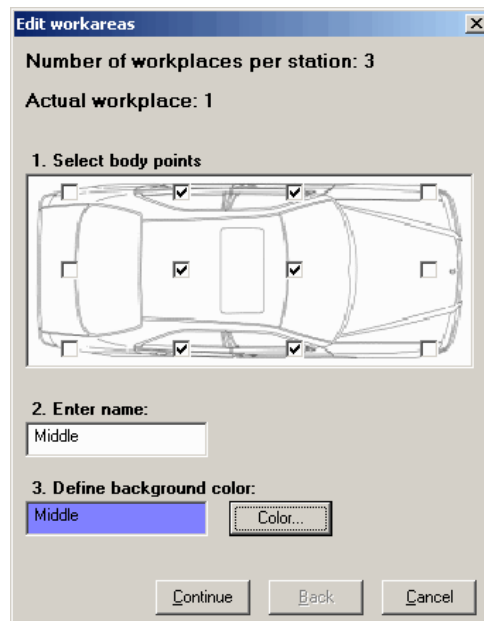
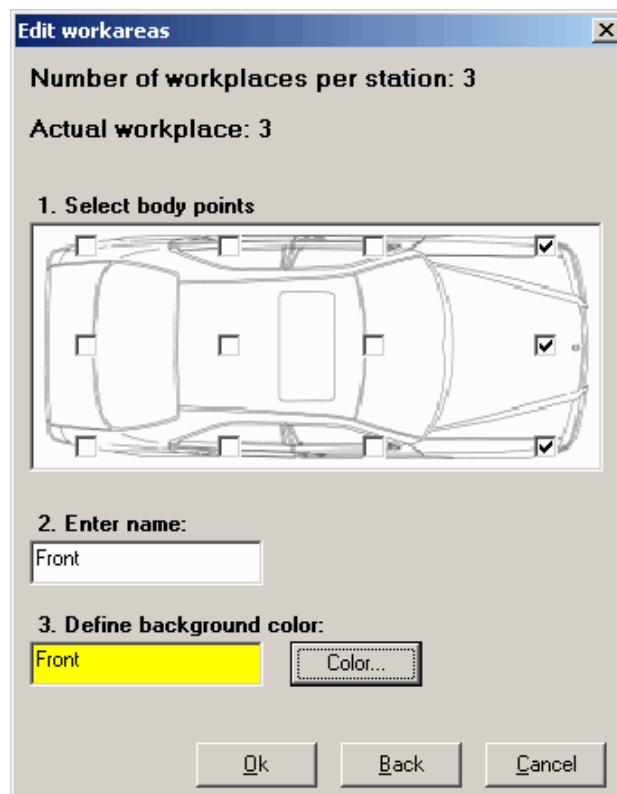

Figure 104: Example of First Workplace
Figure 107: Example of Third Workplace
In the **Work areas** dialog, each workplace is defined. You have to specify work positions (there are three in the example) for each workplace. A balancing process cannot be calculated unless each work position offered (*Please refer to the Figure 104*) has been enabled at the last workplace at the latest.
Use checkmarks to specify the work area. *Please refer to the Figure 104.*
- 1) To specify the work positions, checkmark the fields in **Select body points**. (Please refer to the Figure 104).
- 4) Click **Continue** in the dialog to define the next workplace. Please refer to the Figure 104.
This is due to potential overlapping of work positions. Continuing with this example, you could also now assign work positions to workplace 2 that had previously been assigned to workplace 1 (Please refer to the Figure 104). Workplaces that have not yet been assigned a work position will not be displayed until the last work position has been reached. Please refer to the Figure 107.
- 6) You will have to assign these three unassigned **work positions**. **Workplace 3, Front area**, is assigned these positions. *Please refer to the Figure 107.*